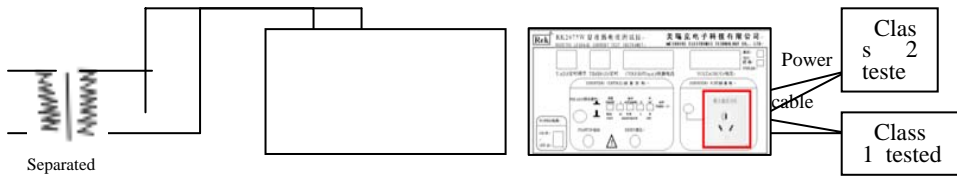
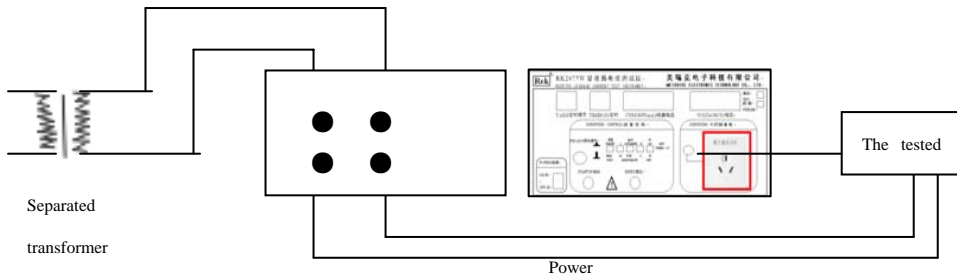
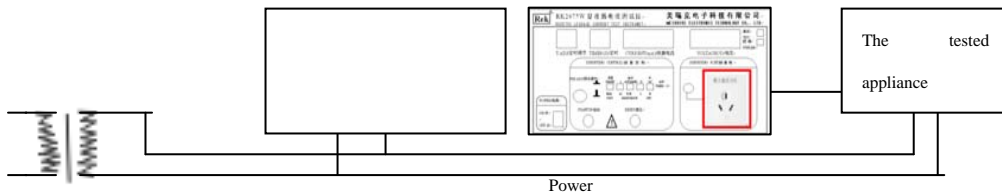

Fig. 3 Wiring method 1 (load <2KVA)
Fig. 4 Wiring method 2 (1KVA < load < 5KVA)
Fig. 5 Wiring method 3 (load > 5KVA)
2. Select wiring method according to the power scope of tested appliance (see wiring method 1, 2, 3 in Fig. 3, 4, 5 respectively), connect the tested appliance according to the selected wiring method when the test indicator goes out. Note: when the tested appliance is connected according to the wiring method 3, the tested appliance is out of control of the tester, namely, its power on/off is not controlled by the key "START", "RESET".
- 2、根据被测电器的功率选择接线方式（见图 3、图 4、图 5 接线方式一、接线方式二、接线方式三）测试指示灯熄灭时按所选择的接线方式连接被测电器，注：其中按接线方式三连接被测电器时，被测电器不受本仪器控制，即其电源的通断不受“启动”、“复位”键控制。